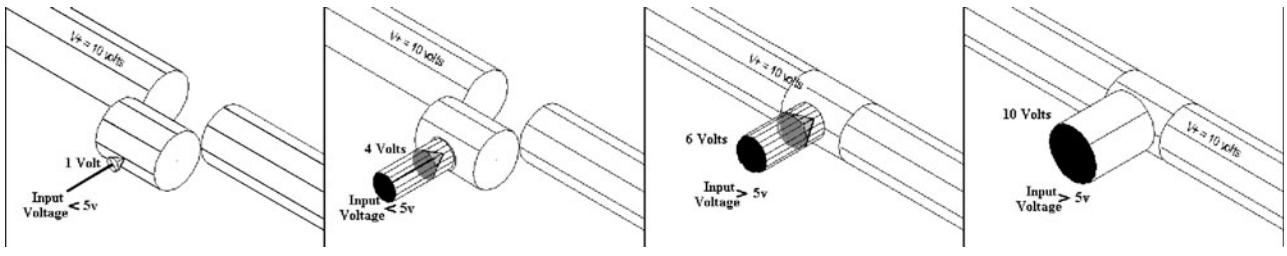

Figure L16-1
- For example, as shown in Figure L16-1, the gate is powered by 10 volts.